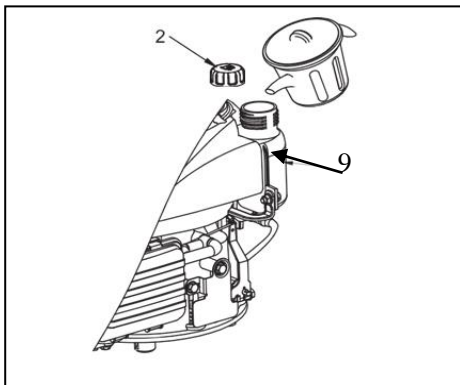

Fig. 4
1. Remove the fuel cap (2).
2. Add fuel to the bottom of the fuel level limit in the neck of the fuel tank (9). (See Fig. 4)